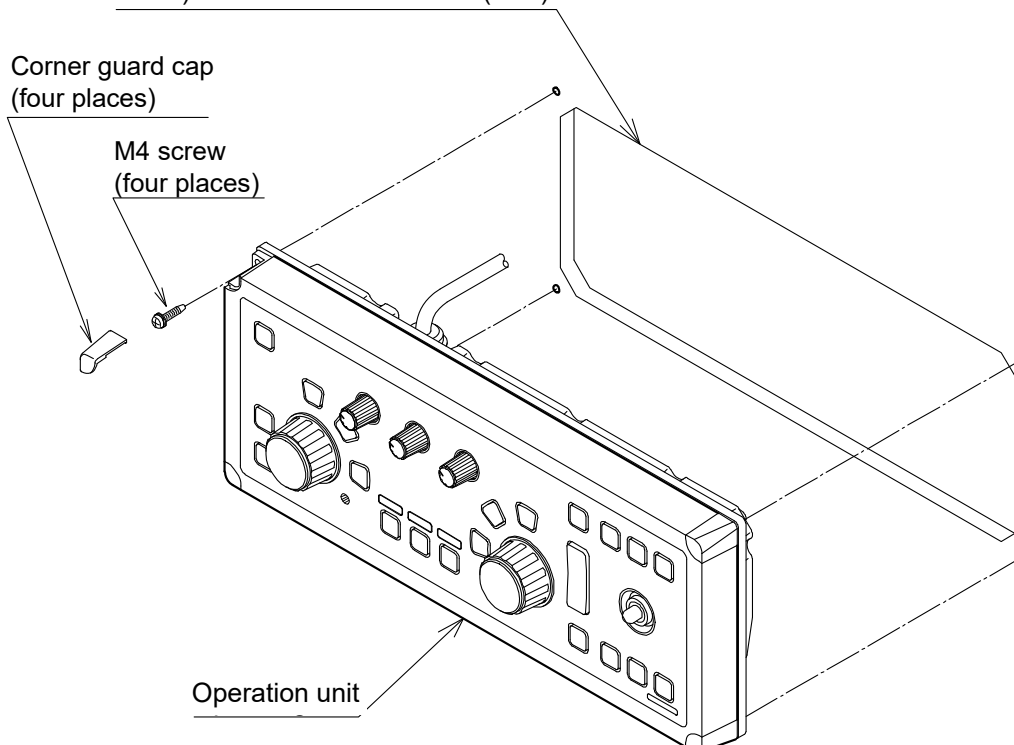

**Figure 3.9 Cutout Diagram for Operation unit**
- (1) Cut an opening as shown in Figure 3.9 in desired location on a panel.
- (2) Mark position of mounting holes.